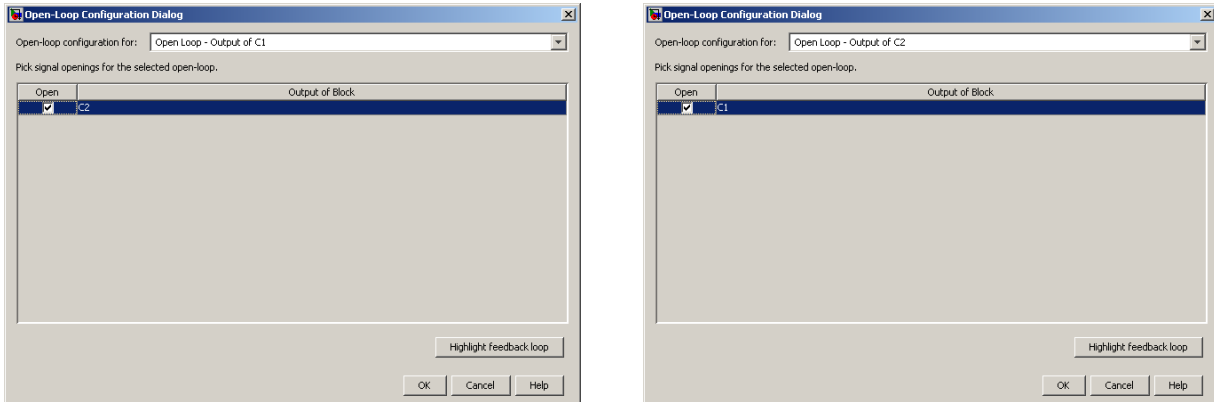

Figure 3: Loop Configuration
5. On the drop down menu select **Open Loop-Output of C2** and check **Open** for **Output of Block C1** (see Figure 3)